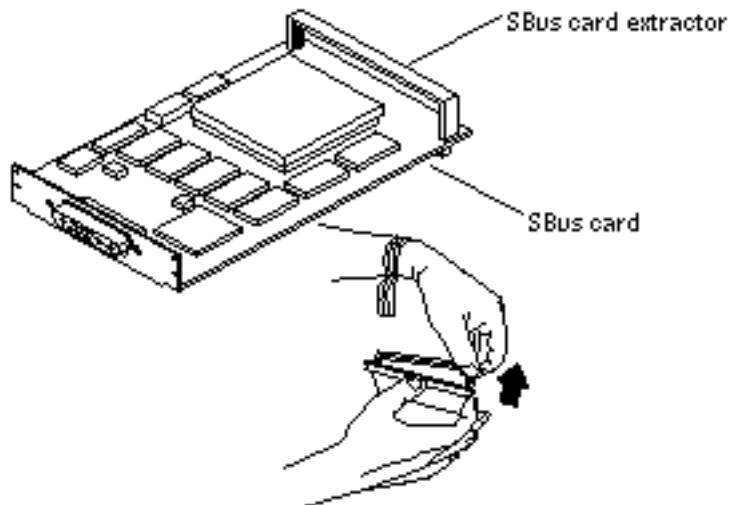

Figure 2-13 Removing the SBus Card Extractor
- a. Bend one leg of the extractor slightly to the outside until the hook clears the hole in the SBus card (Figure 2-13).